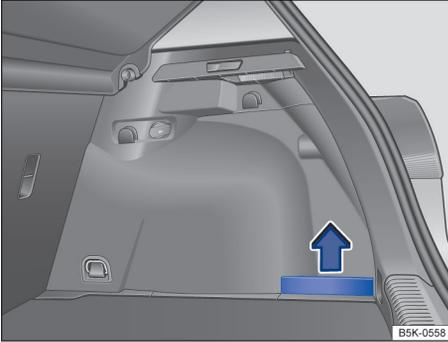

Fig. 144 In the luggage compartment: Side storage compartment with removable panel.
- *To remove*: Pull the side panel upward in the direction of the arrow → fig. 144.